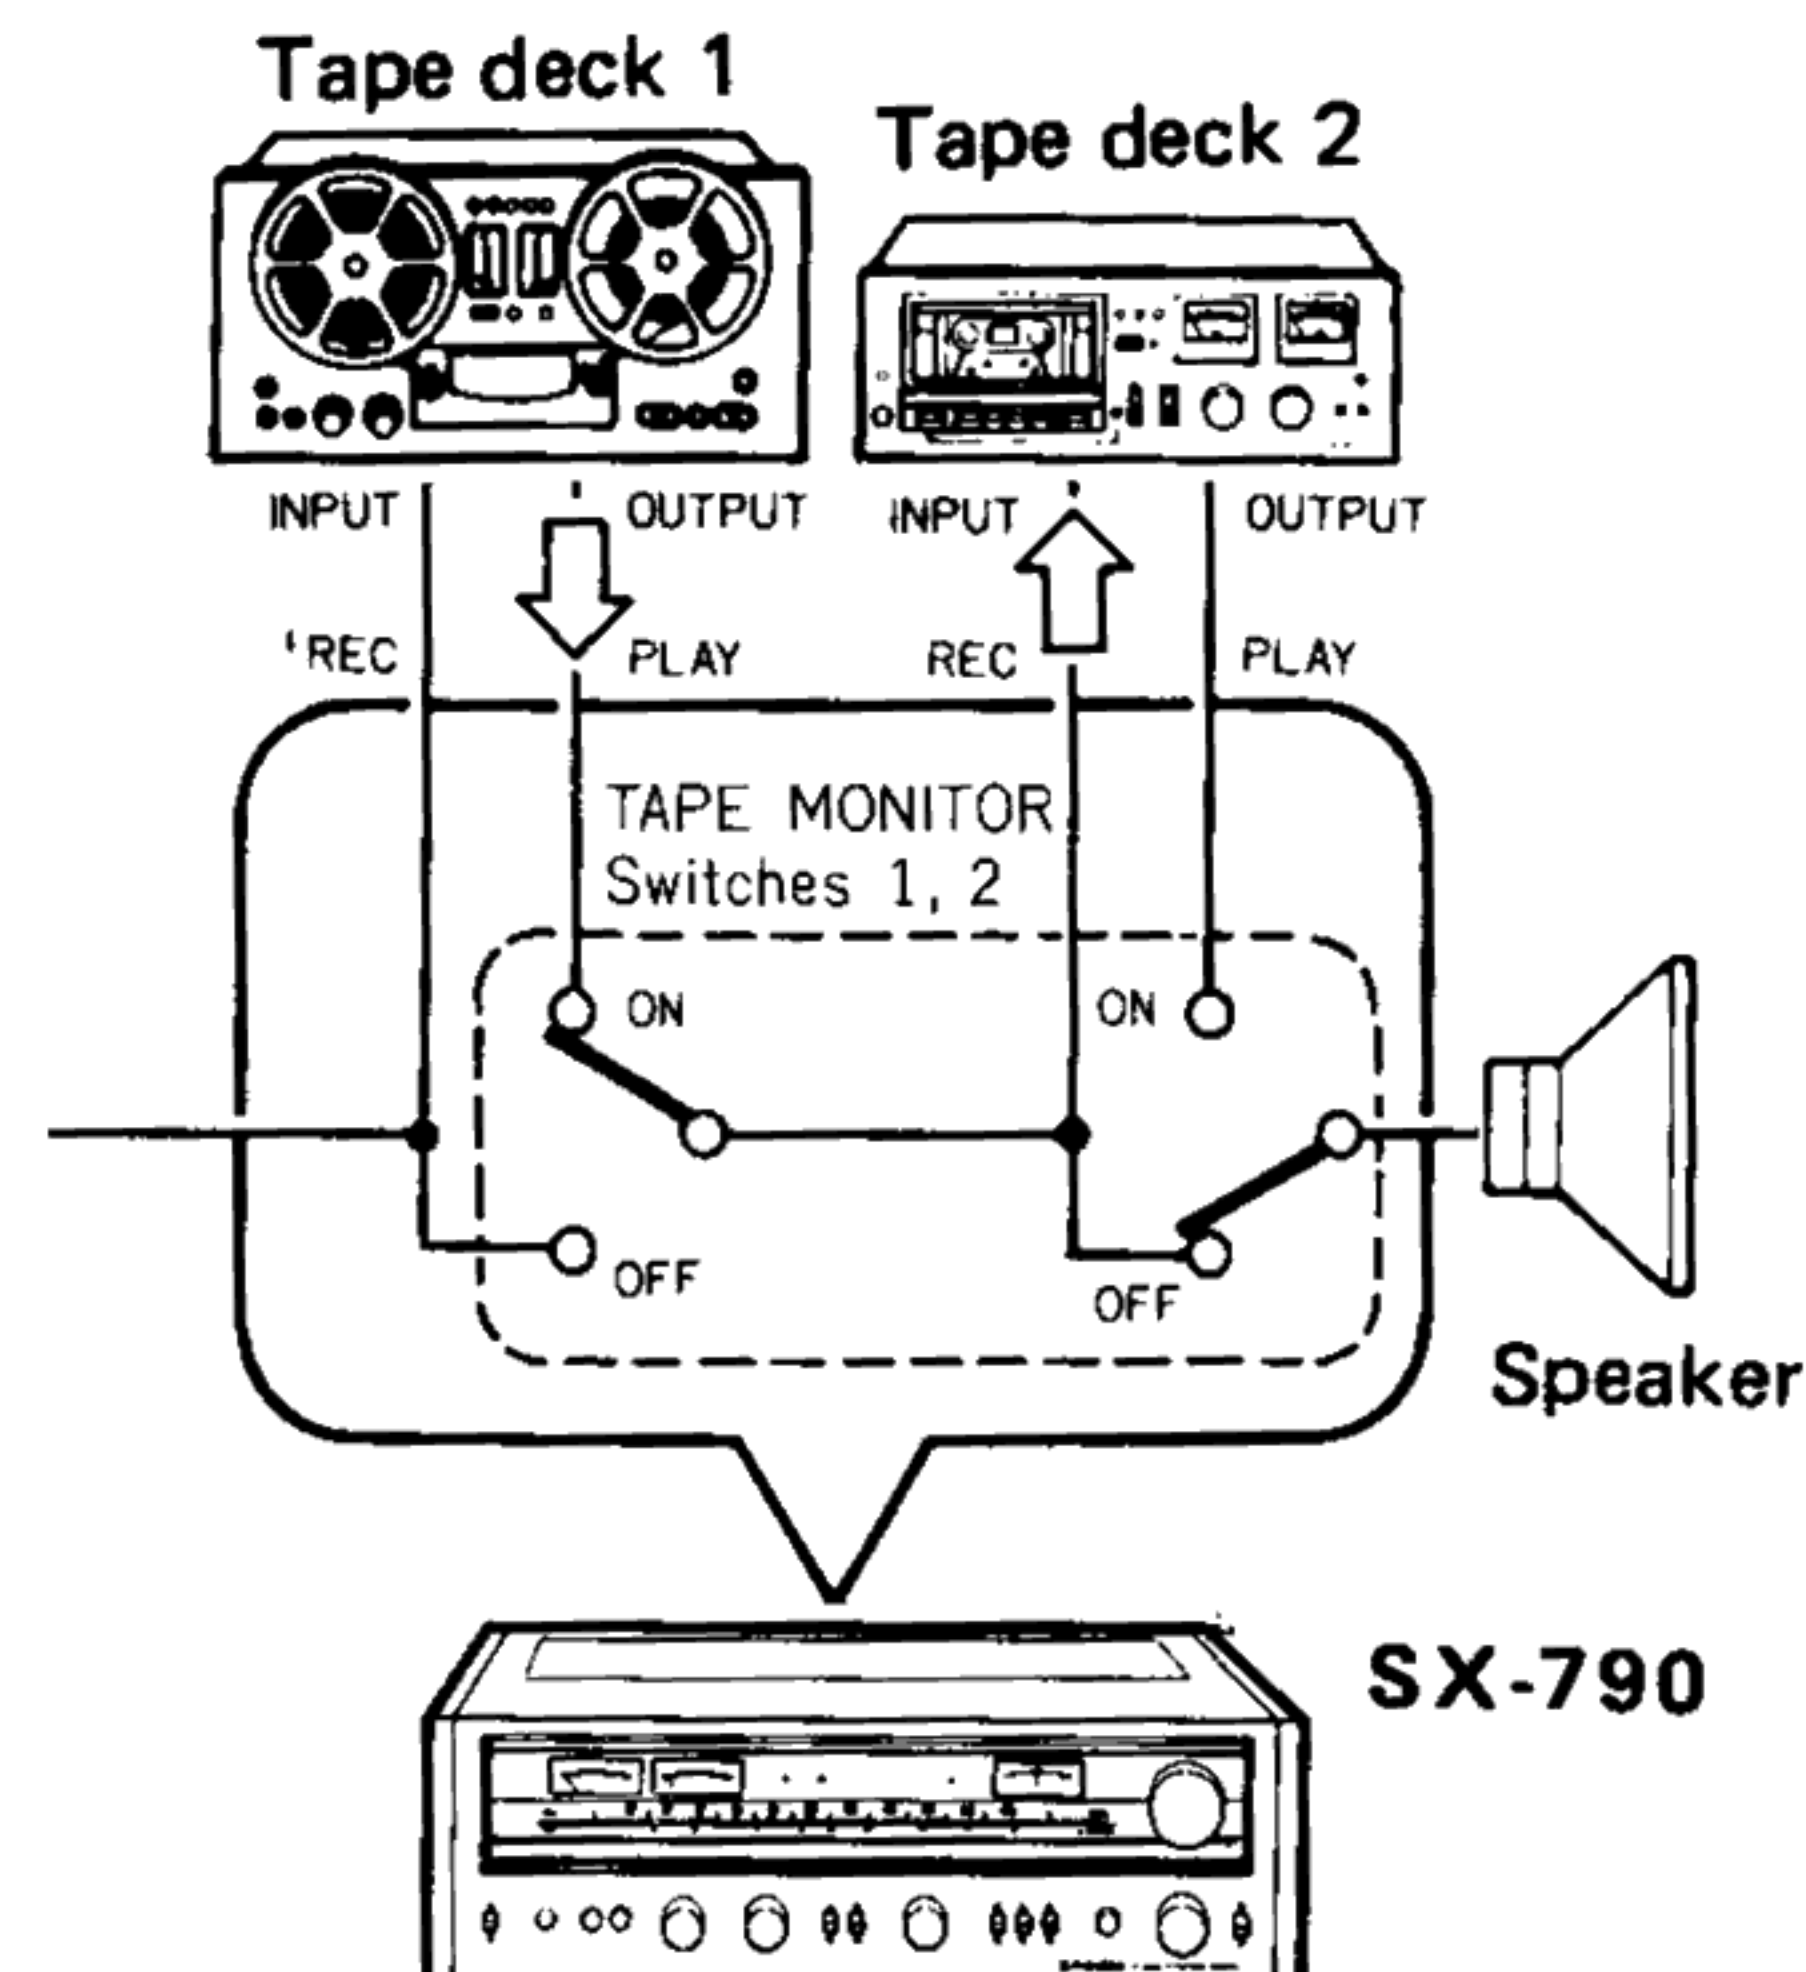

Fig. 13
1. As shown in Fig. 13, connect the tape deck for the receiver's TAPE 1 and TAPE 2 jacks.